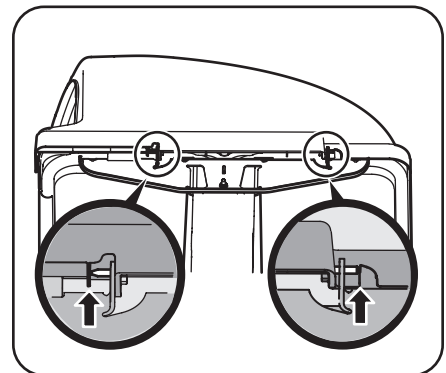

Figure 4-7
5. At this point the pin clips into place and is secured by a tab in the bagger cover. See Figure 4-7.